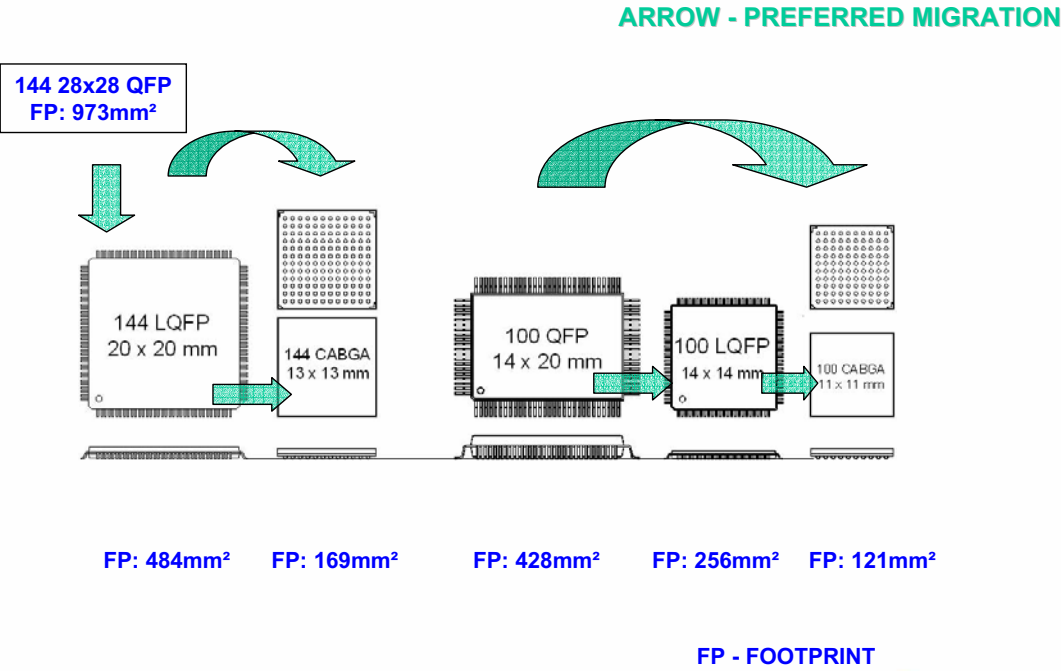

Figure 56. 100-/144-Lead Migration
- 100-/144-lead (Figure 56 on page 52)